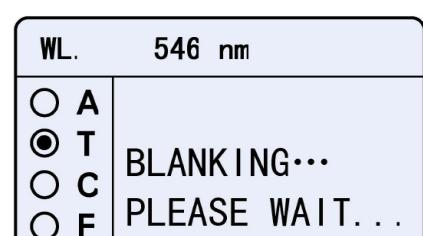

Fig. 4-5
3) Pull the Reference in the light path to calibrate 100%T (Fig. 4-5).